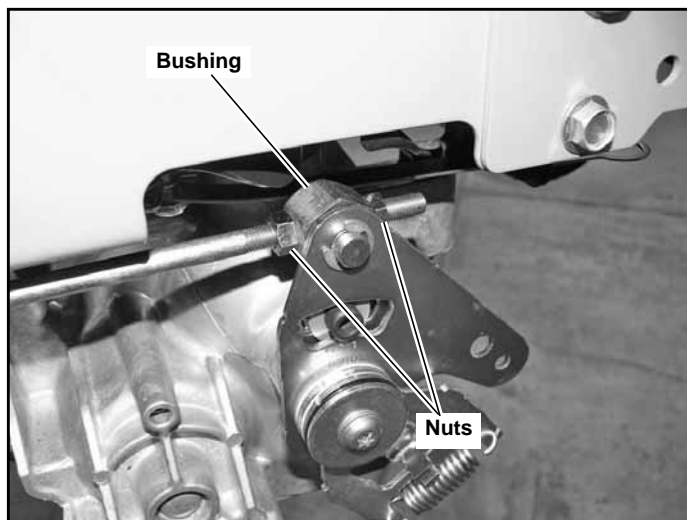

Figure 4-2
5. Loosen the nuts adjacent to the steering bushing. Figure 4-2